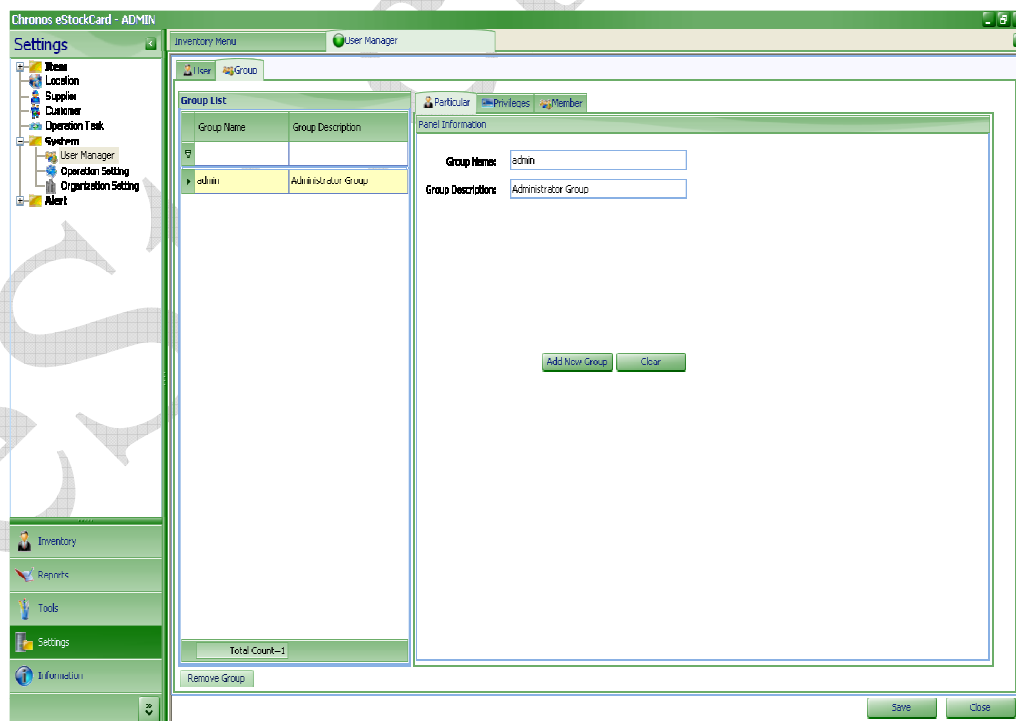

Fig. 8
- Step 1 Select “Group” and “Particular” from main screen. (Fig. 8)